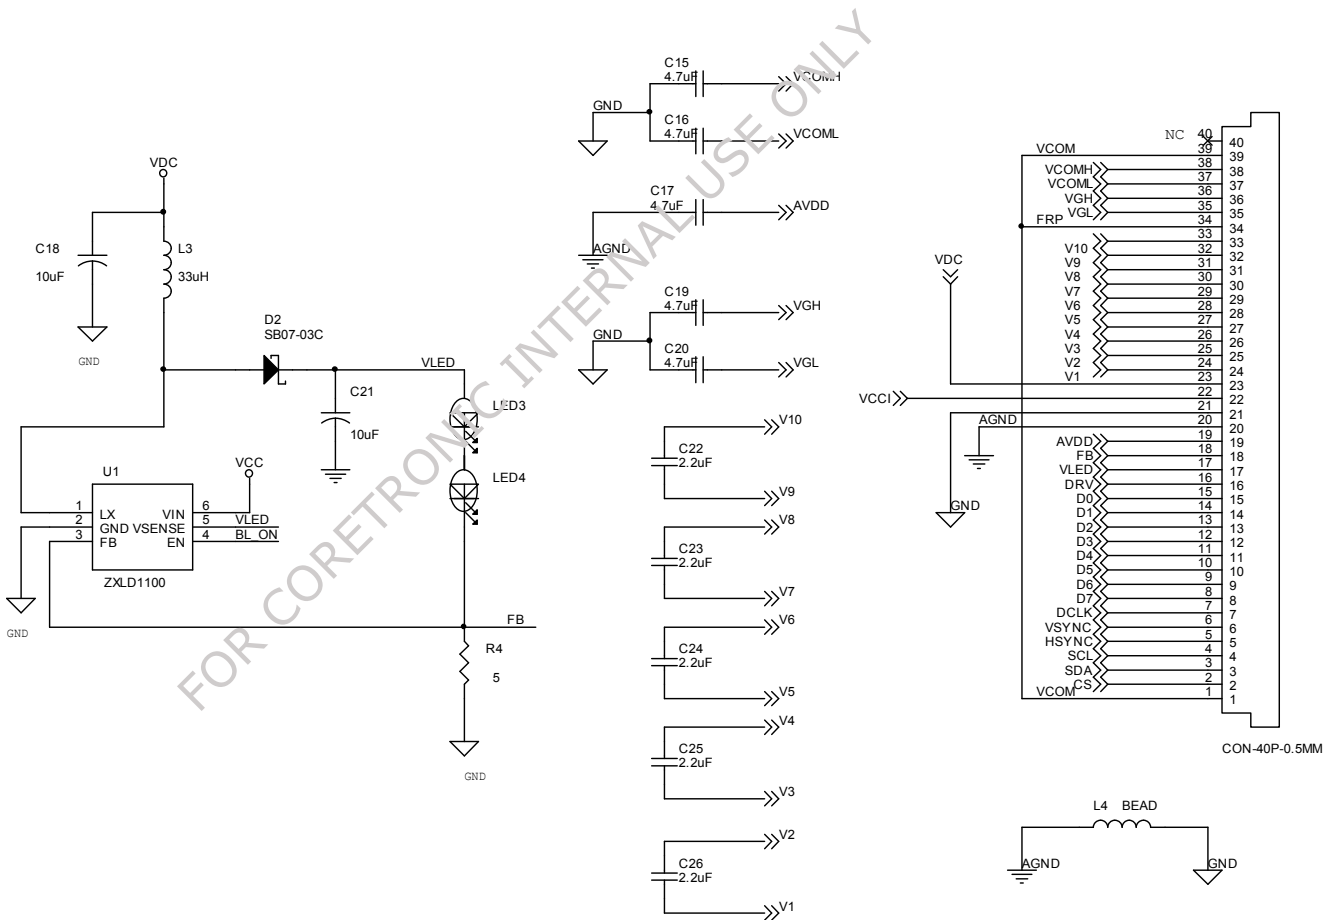
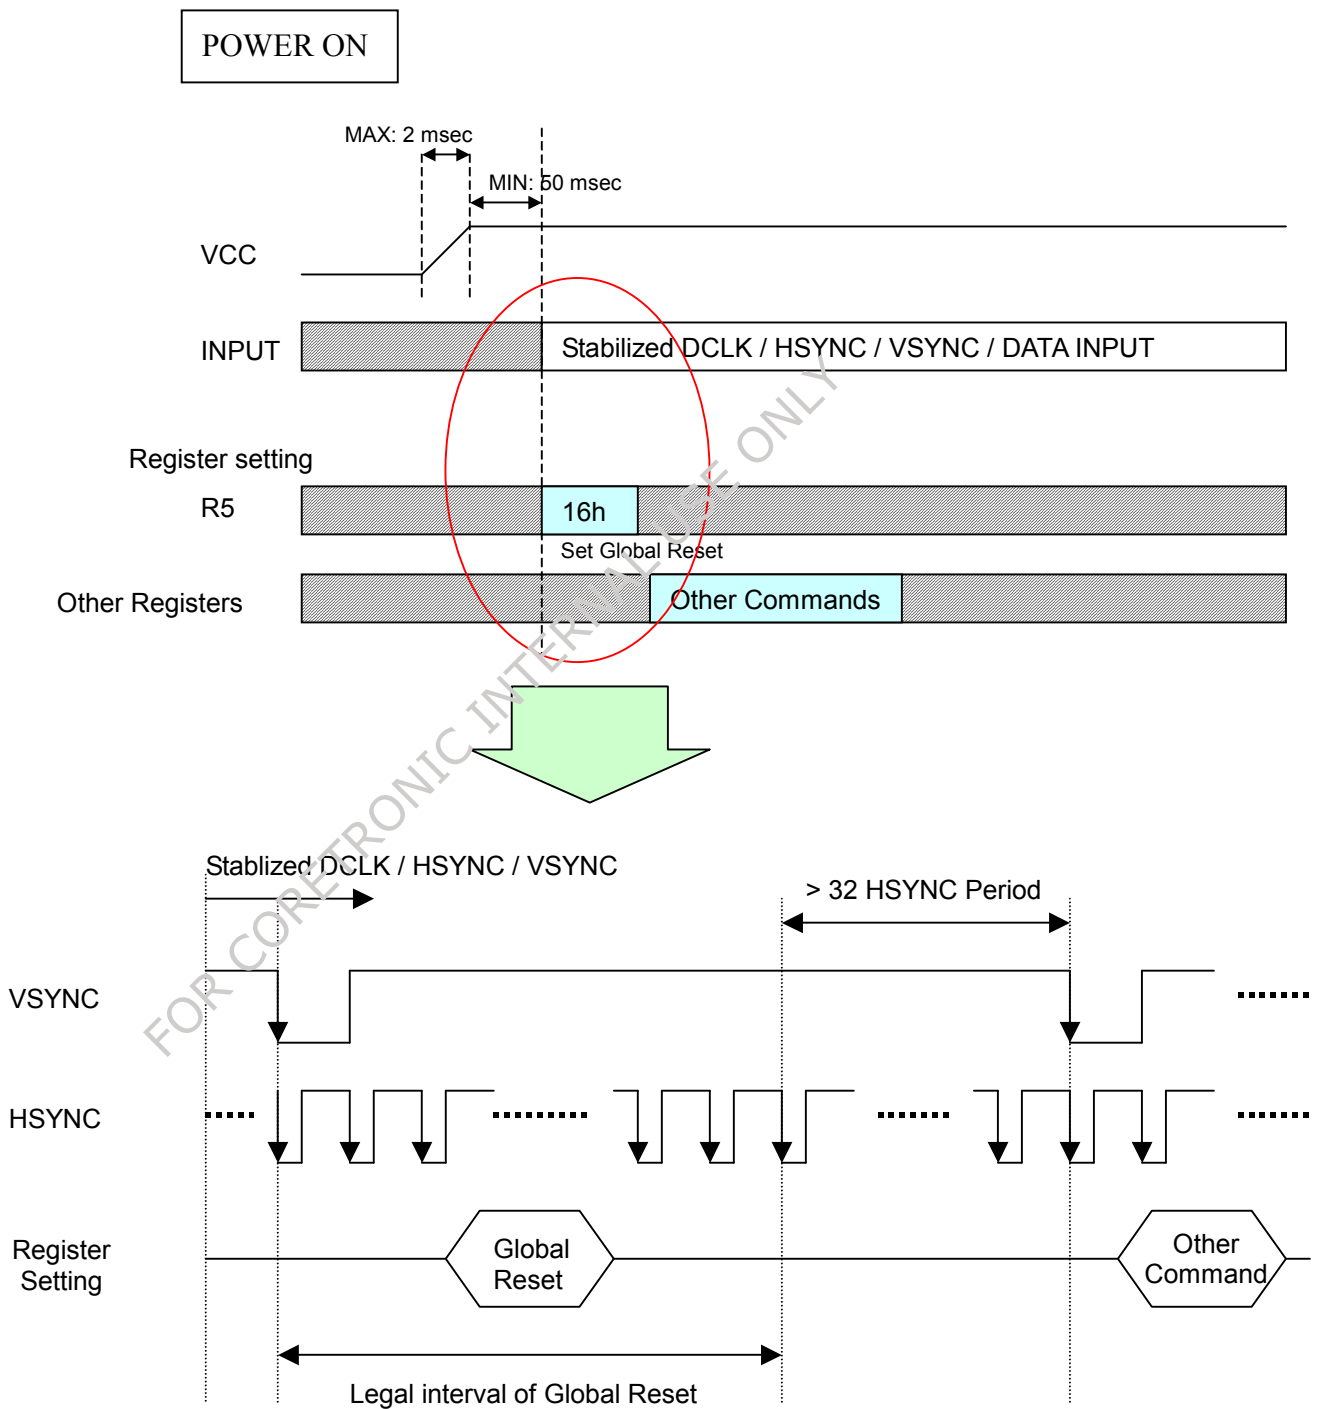

Fig.14 External LED driver Circuit
Fig.19 Valid Timing of Global Reset
See Fig. 14 for the application circuit.
According to Fig. 14, the LED driver(ZXL1100) and R4(5 ohm) with 0.1V feedback (FB) can provide a constant 20mA current for LED backlight unit. To control the back light on/off timing, user should create a control signal BL_ON (please refer to the ZXL1100 date sheet). The LCD driver output DRV signal can also be used to drive BL_ON.
After VDC/VCCI power on reset, VSYNC/HSYNC/DCLK/DATA can be input, and serial control interface is also operational. To ensure that panel can be lighted on successfully, the first step is setting global reset (register #5 "16(hex)") as the timing in Fig. 15. Then the LCD driver is in default standby mode after VDC/VCCI power-on, and setting register #5 bit #0 to high (STB=1) to disable the standby mode is required for normal operation. When the standby mode is disabled, a build-in power on sequence is started. The driver IC analog power AVDD is turned on first, and then the LCD positive and negative power supplies VGH/VGL are pumped, and followed by the LED power VLED. Since we recommend using external LED driver, the BL_ON signal (see Fig.14) should be provided at this time. Please refer to Fig.15 and Fig. 19 for the detail timing of power on/off sequence, especially the global reset timing in Fig. 19.